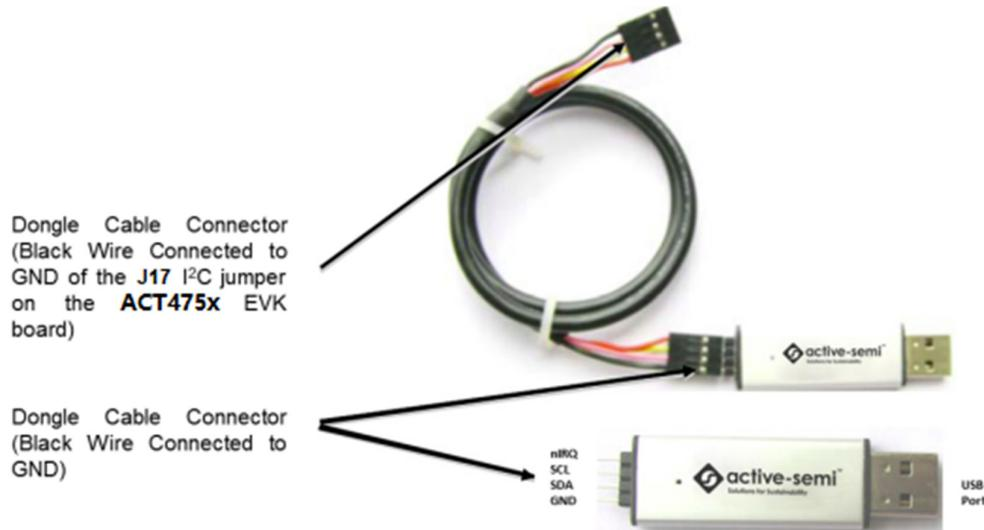

Figure 3. USB-TO-I2C Dongle Connection
3. Connect the USB-TO-I2C dongle to the EVK J17 connector. Refer to Figure 3 to ensure the correct polarity of the connection. As a guide, use the "Active-Semi" logo on the top of the dongle so the black wire is connected to the Dongle GND pin.